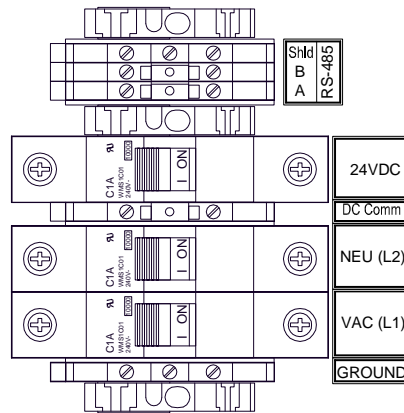

Figure 72 AC/DC Inputs
2. Connect 100-120/220-240VACVAC input wiring to the terminals labeled “ACV (L1)”, “Neutral (L2)”, and “Ground” (Figure 72). The power supply is capable of handling AC inputs from 100-120/220-240VAC 50-60Hz without degradation.